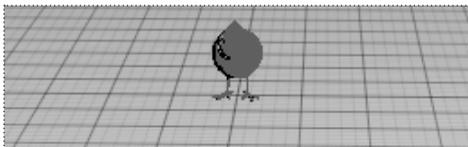

Fig. 10.10
7. The default size of the bird is very small. We will resize the object to increase its size. [Fig 10.10]